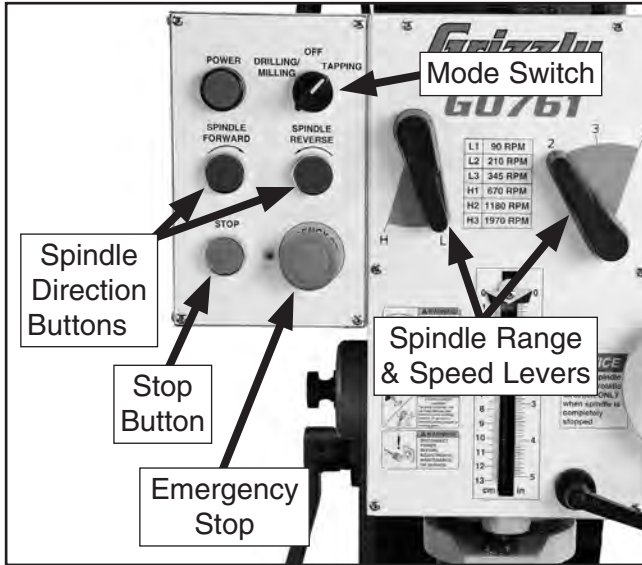

Figure 11. Control panel and spindle speed controls.
3. Press EMERGENCY STOP button (see **Figure 11**). This will help prevent unexpected startup when machine is connected to power.